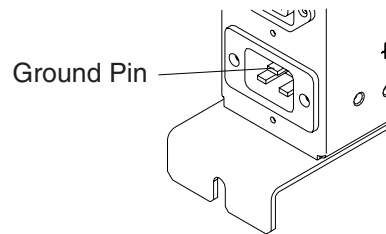

Figure 0-7. Ground Pin of the Controller Expansion ac Outlet Distribution Box
- Check that electrical continuity is assured between each machine installed in the controller expansion (service processor, network node processor, modem, optical disk drive, and so on) and the ground pin of the ac outlet distribution box (see Figure 0-7).